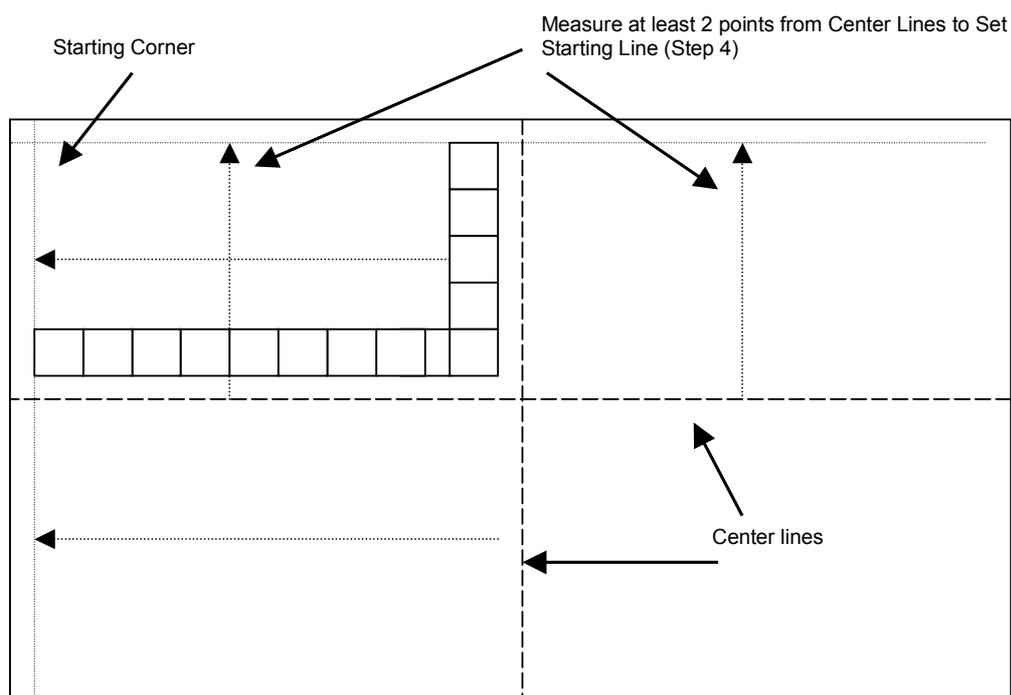

Figure 3
2. Locate the center of the room by snapping a chalk line between the midpoints of two parallel walls. Measure and mark the midpoint of that line. Use a carpenter's square to establish a line perpendicular to the first line at the midpoint and snap a perpendicular chalk line extending to the walls. This will create a cross that intersects at the center of the room, such as in Figure 3.
4. Mark the point near the wall where the last full row will end. Measure the length from that point back to the Center Line. Draw at least two more lines of that length from the Center Line back towards the wall. Make sure they are square to the Center Line and mark their endpoints. Using those marks, snap a chalk line along the wall. This line will be parallel to the Center Line. See dotted lines in Figure 3.